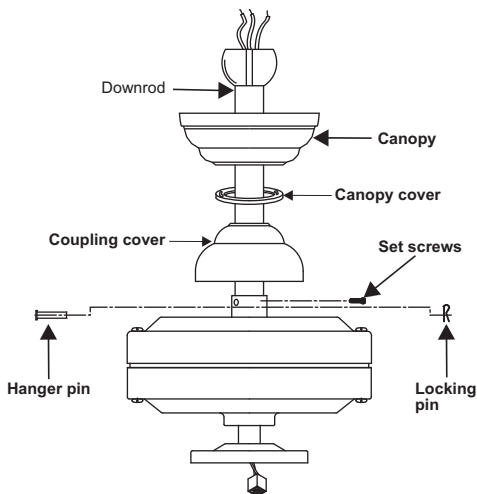

Figure 7
Step 6. Route wires exiting from the top of the fan motor through the coupling cover, canopy cover and canopy, then through the ball / downrod. (Fig. 7)
Step 7. Align the holes at the bottom of the downrod with the holes in the collar on top of the motor housing (Fig.7). Carefully insert the hanger pin through the holes in the collar and downrod. Be careful not to jam the pin against the wiring inside the downrod. Insert the locking pin through the hole near the end of the hanger pin until it snaps into its locked position, as noted in the circle inset of Fig. 7.
Step 8. Tighten two set screws on top of the fan motor firmly. (Fig. 7)